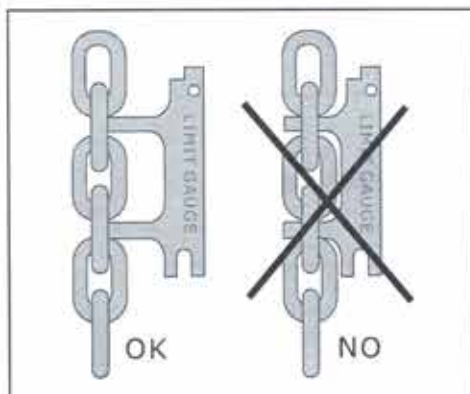

Fig.6.3 Measure of internodal distance
- Measure the interlink distance as shown in Fig 6.3